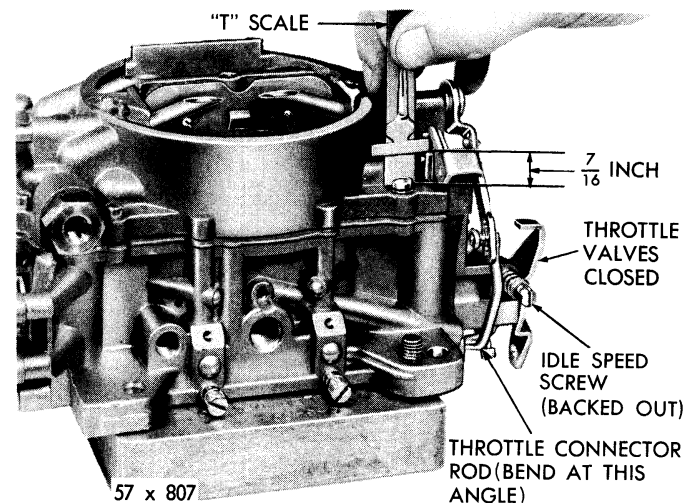

Figure 104—Checking Accelerator Pump Travel
**Accelerator Pump Adjustment**—Move the choke valve to wide open position, to release the fast idle cam. Back off the idle speed adjusting screw until the throttle valves are seated in the bores. Measure the distance from the top of the air horn to the top of the plunger shaft, using a "T" scale, as shown in Figure 104. This distance should be  $\frac{7}{16}$  inch. If an adjustment is necessary, bend the throttle connector rod at the lower angle, using Tool T109-213, until correct distance has been obtained.